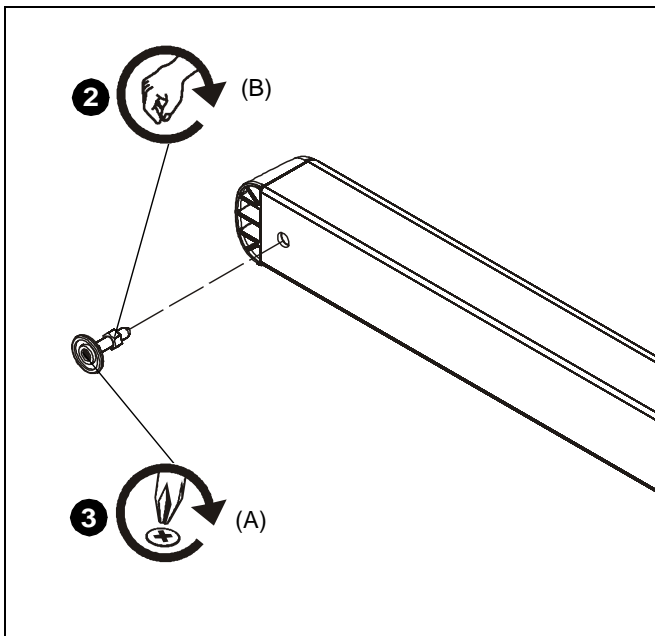

Figure 2
- Thread 1/2-13" hex nuts (B) onto leveling feet (A), if using leveling feature. (See Figure 2)
- Install leveling feet (A) into mounting holes on bottom of LVM mount where casters were previously installed. (See Figure 2)